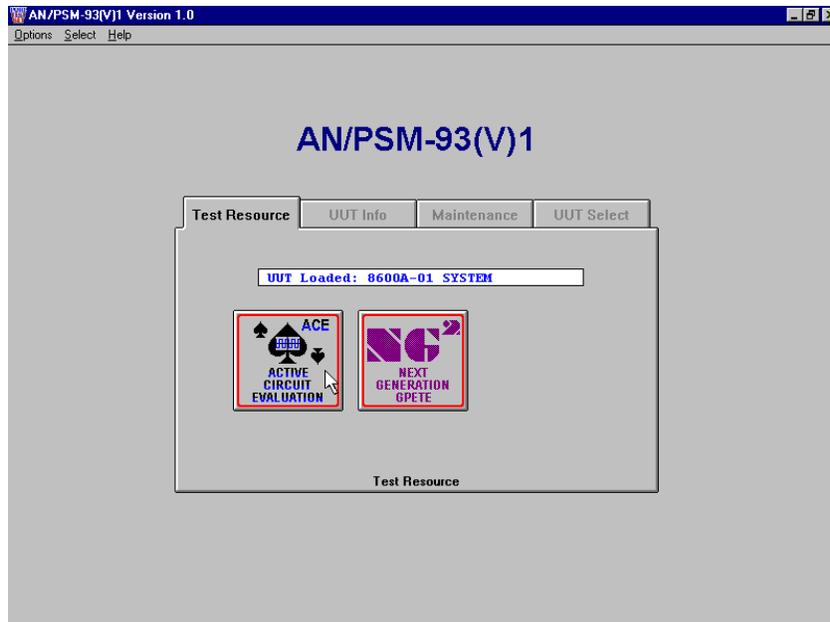

Figure 8. Test Resource Screen.
3.7 Testing a UUT via the Signal Evaluation Set (SES). Once all of the support files for the UUT have been downloaded via the UUT Select process described in paragraphs 2.2.2 and 2.2.3, and viewed as desired by the operator, testing of the UUT can begin. At the TEST RESOURCE folder, click on the Active Circuit Evaluation (ACE) icon. (See Figure 8, Test Resource Screen, below). This will take the operator to either a schematic or block diagram of the assembly or system under test. From this schematic or block diagram the operator will either be guided through a step-by-step testing or troubleshooting process, or will make his or her own decisions as to the order of test. This depends on the nature and type of SES developed for the selected UUT. (See paragraph 1.3 for SES description)